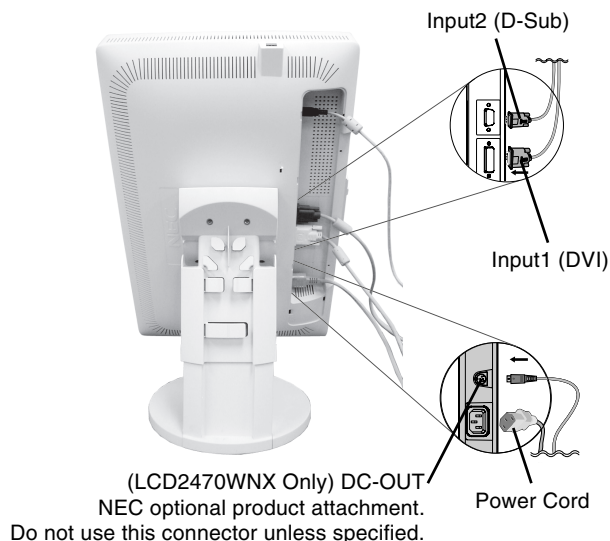
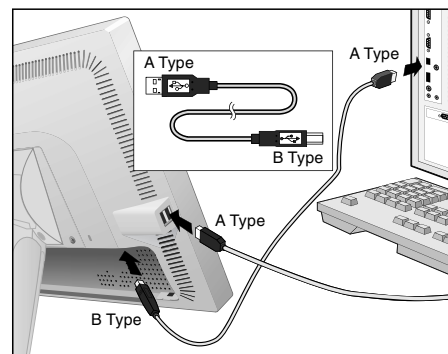

Figure C.4
Figure C.4a
6. Connect all cables to the appropriate connectors (**Figure C.4**). When using the USB cable, connect the B type connector to the USB upstream port on the right back side of the monitor and the A type connector to the downstream port on the computer (**Figure C.4a**). If you can use the cord from the USB device, use one of the downstream ports on the side of the monitor (USB Cable: WNX model only).